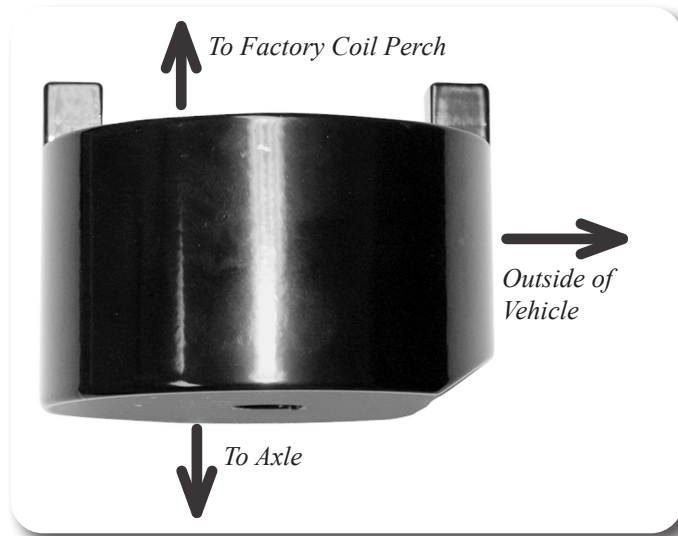

Figure 7
15. Apply thread locker to the supplied 14mm bolt. Install the factory coil perch in conjunction with the new spacer (Fig 7) on the axle. The chamfer in the block goes toward the outside and the upper tabs nest in the recesses in the coil perch. Fasten the assembly with the 14mm x 100mm bolt (14mm x 80mm for #J1101) and 9/16" SAE flat washer. Torque hardware to 95 ft-lbs.